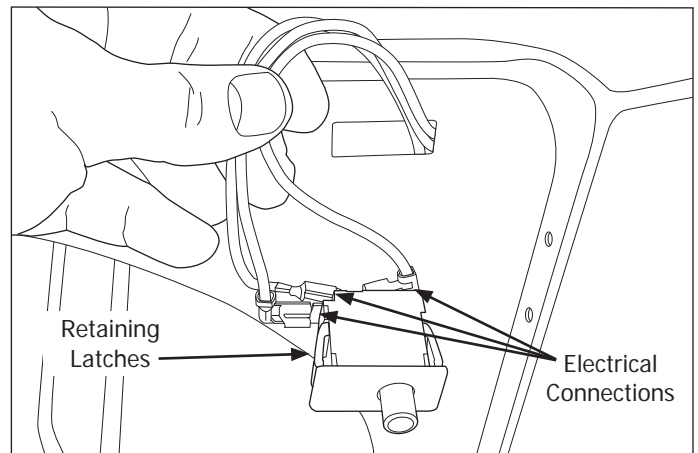

Figure 4-20. Gallery Series Shown
2. Press in on the two retaining latches and push door switch through front panel. (See Figure 4-20)